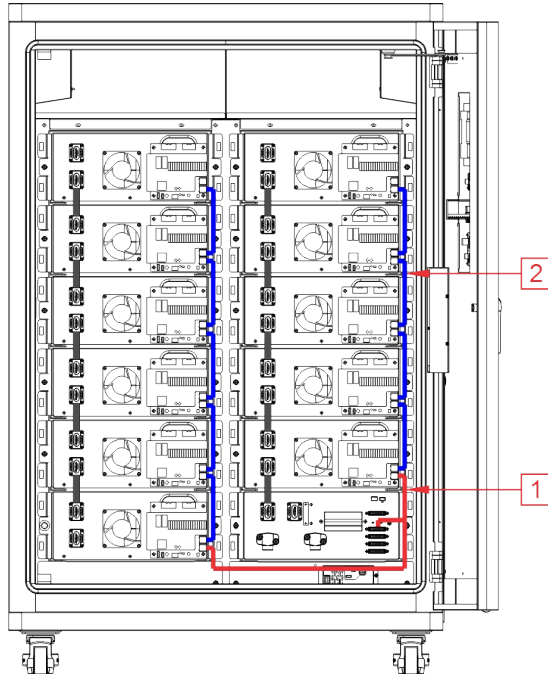

Figure-16 Battery cluster communication cable wiring diagram
2) According to the wiring position shown in Figure-16, each cluster is connected to the battery module communication line in the S-shape from the lower right corner.